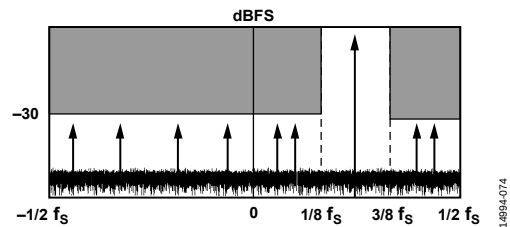
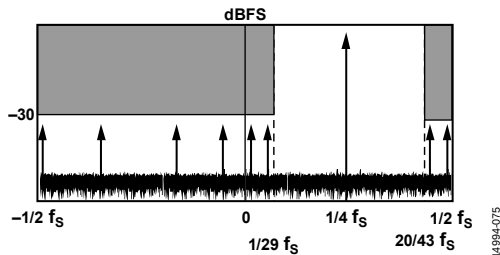

Figure 86. 25% VDR Bandwidth, Complex Mode
Figure 87. 43% VDR Bandwidth, Complex Mode
The complex mode of VDR works with selectable bandwidths of 25% of the sample rate (50% of the Nyquist band) and 43% of the sample rate (86% of the Nyquist band). Figure 86 and Figure 87 show the frequency zones for VDR in the complex mode. When operating VDR in complex mode, place in-phase (I) input signal data in Channel A and place quadrature (Q) signal data in Channel B.
Figure 86 shows the frequency zones for the 25% bandwidth VDR mode with a center frequency of $f_s/4$ (tuning word = 0x04). The frequency zones where the amplitude may not exceed –30 dBFS are the upper and lower portions of the Nyquist band extending into the complex domain.
Table 30 and Table 31 show the tuning words and frequency values for the 43% complex mode. Table 30 shows the relative frequency values, and Table 31 shows the absolute frequency values based on a sample rate of 491.52 MSPS. Figure 87 shows the frequency zones for the 43% BW VDR mode with a center frequency (f_{VDR}) of $f_s/4$ (tuning word = 0x04). The frequency zones where the amplitude may not exceed -30 dBFS are the upper and lower portions of the Nyquist band extending into the complex domain.